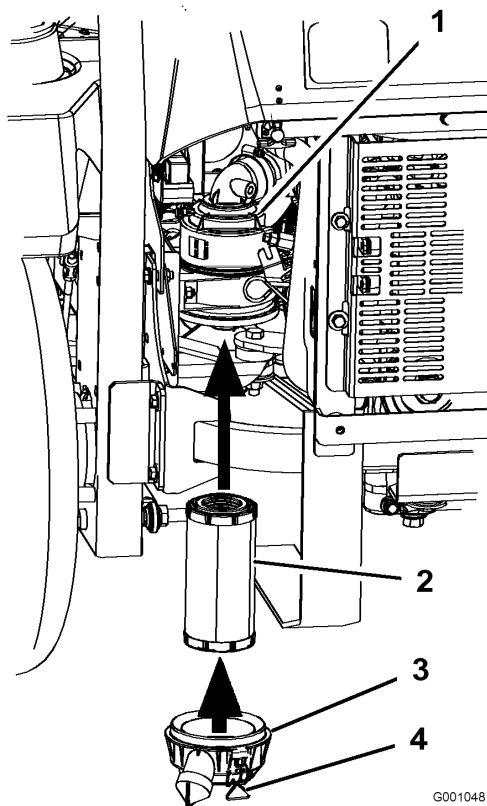

Figure 32
2. Carefully slide the filter into the filter body (Figure 32). Ensure that it is fully seated by pushing on the outer rim of the filter while installing it.
3. Install the air cleaner cover and secure the latches (Figure 32).